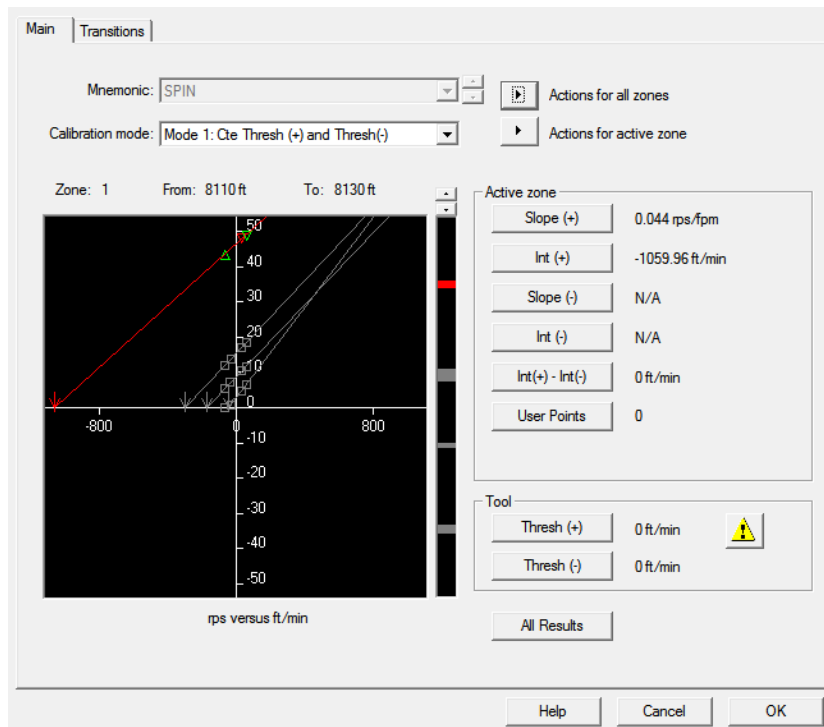

Fig. B05.26 • Spinner calibration
- Select 'Calibrate' and accept the automatic calibration, Fig. B05.26.